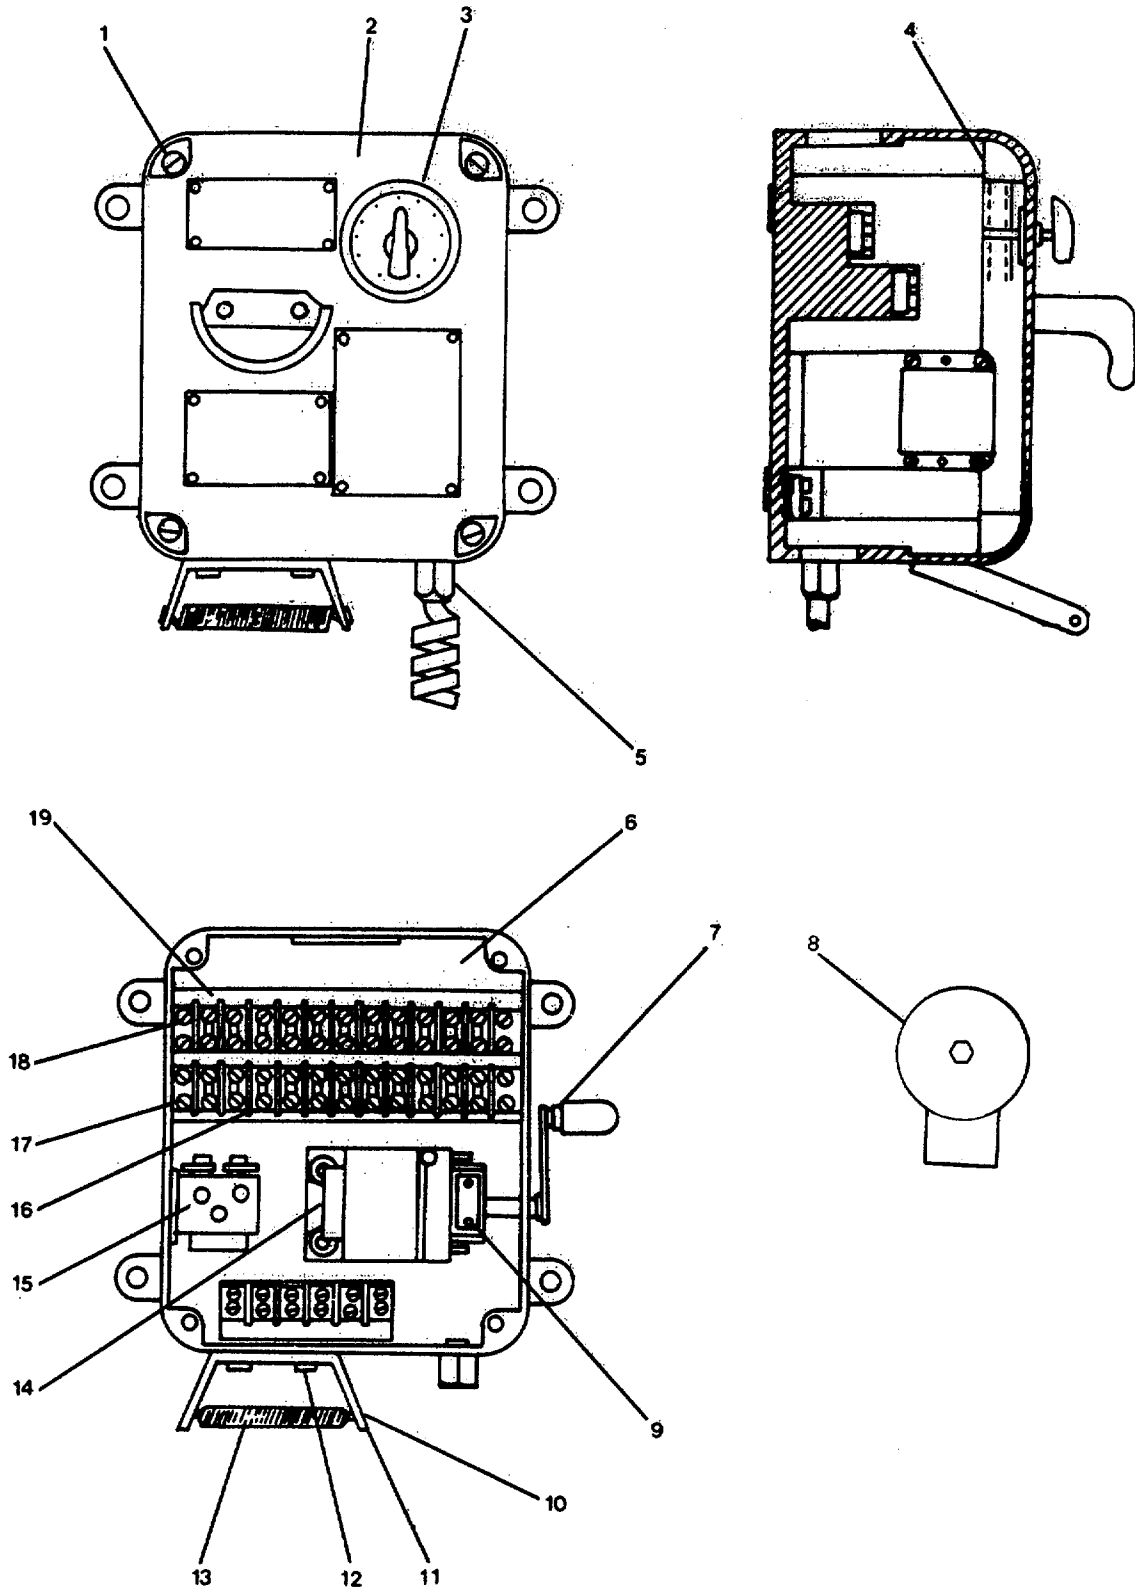

FIGURE 3-33. *Sound Powered Telephone SER (MOD)-8.*
- j. Install electromagnetic relay (25) and self-locking screw (14).
- k. Install hook switch (22).
- l. Install incandescent lamp (21), lens (20), and pilot light assembly (19). Remove tags and connect electrical leads.
- m. Install cotter pin (7), headset retaining spring (6), and headset bracket (5).
- n. Install drive screw (8).
- o. Install telephone selector switch (2). Remove tags and connect electrical leads.
- p. Install gasket (10) and access cover (3) into telephone housing (9).
- q. Install drive screw (1).
**3-36. Repair Sound Powered Telephone SER (MOD)-8. (Figure 3-33)**